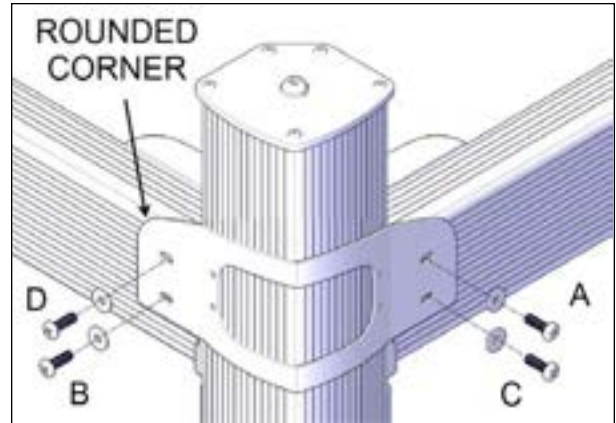

FIGURE 64: INSTALLATION PATTERN FOR CORNER BRACKET SCREWS ATTACHED TO THE C-CHANNELS
26. Install the first outer corner bracket as shown in Figure 64. Fasten the bracket to the cover C-Channels with four painted Phillips M6 x 20mm bolts and 1/4" painted washers. Install the first screw on position A and for the remaining screws, keep following the pattern shown in Figure 64.